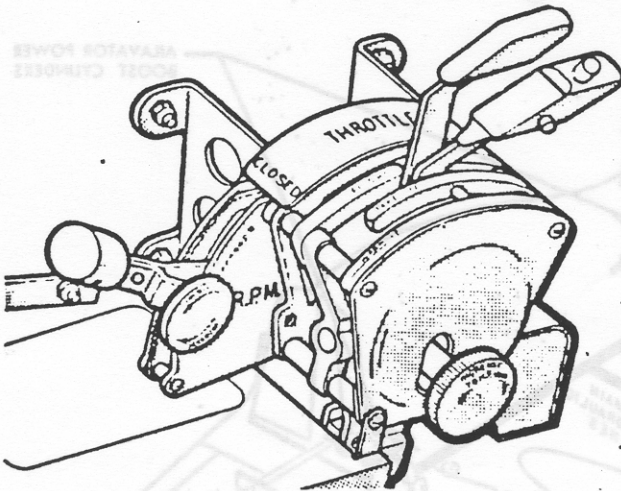
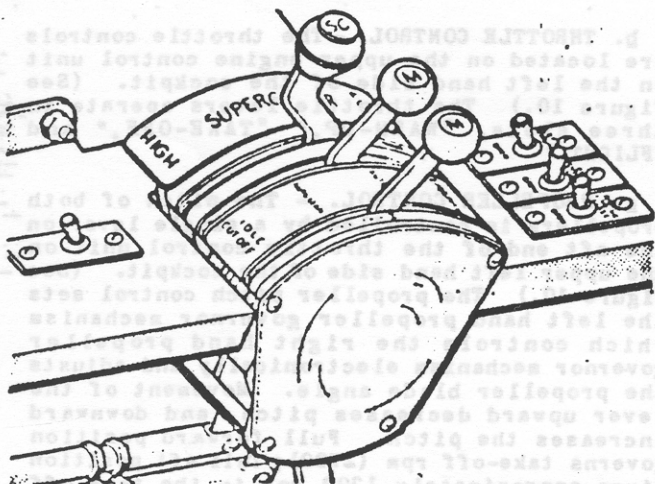

Figure 10 — Throttle and Propeller Control Unit
Figure 11 — Supercharger and Mixture Control Unit
(See figure 10) houses the throttle controls and the propeller pitch control; the lower unit (see figure 11) houses the supercharger control and mixture controls. There are separate mixture and throttle controls for each engine. Both control units are plainly marked with the name and various settings of the control levers. A friction adjustment knob is provided on the inboard side of the throttle and propeller control unit.
b. THROTTLE CONTROL. - The throttle controls are located on the upper engine control unit on the left hand side of the cockpit. (See figure 10.) The throttle levers operate in three slots, "WARM-UP," "TAKE-OFF," and "FLIGHT."
c. PROPELLER CONTROL. - The pitch of both propellers is controlled by a single lever on the aft end of the throttle control unit on the upper left hand side of the cockpit. (See figure 10.) The propeller pitch control sets the left hand propeller governor mechanism which controls the right hand propeller governor mechanism electronically and adjusts the propeller blade angle. Movement of the lever upward decreases pitch, and downward increases the pitch. Full forward position governs take-off rpm (2700); full aft position gives approximately 1300 rpm in the take-off slot and approximately 800 rpm for flight.
d. MIXTURE CONTROL. - The two mixture controls have four positions, "EMER. RICH," "AUTO RICH," "AUTO LEAN," and "IDLE CUT-OFF," which are plainly marked on the top plate of the lower control unit located on the left hand side of the airplane. (See figure 11.) The R-2000-7 engine is equipped with a Bendix-Stromberg PD-12-17 downdraft injection carburetor with automatic mixture control. Fuel will be discharged from the carburetor at any fuel pressure above 4-5 pounds per square inch when the mixture control is not in the "IDLE CUT-OFF" position.
e. SUPERCHARGER CONTROL. - The control for the single-stage, two-speed superchargers is located just outboard of the mixture levers on the lower control unit on the left hand side of the airplane. (See figure 11.) The impeller is driven directly by the crankshaft. By means of two sets of gear ratios, it can be engaged in either of the two fixed gear ratios, high or low, when the control is in the "LOW" or "HIGH" position.